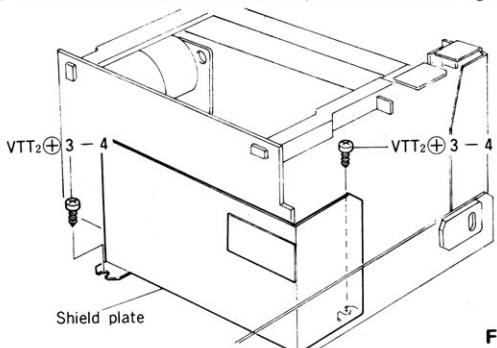

Fig. 25
- 2) Remove 2 screws of the shield plate. (Refer to Fig. 25)